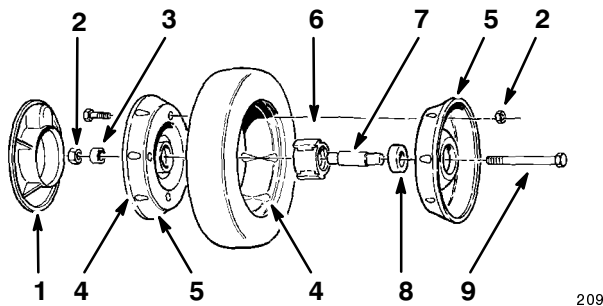

Figure 33
3. Remove the cap screw, the wheel spacer, and the locknut mounting the wheel to the pivot arm (Fig. 33).
4. Separate the wheel halves from the tire by removing four cap screws and four locknuts (Fig. 33).
Note: If you remove the bearings from the bearing/hub assembly, remove them by pressing on the bearing spacer (Fig. 33).
1. Position the tire onto one wheel half, aligning the lugs on each (Fig. 33).
2. Place the bearing/hub assembly into the center hole of the wheel half. Ensure that the legs of the hub are positioned over the flange of the hole (Fig. 33).
3. Place the other wheel half onto the bearing/hub assembly, aligning the wheel and the tire lugs and the mounting holes (Fig. 33).
4. Using two 1/4–20 x 1.5 in. (6 x 38 mm) fully threaded screws or bolts and non-locking nuts, loosely secure the wheel halves together. Mount the screws or bolts in the opposing holes (Fig. 33).
5. Check the alignment of all parts and tighten the screws, alternating from side to side for a uniform fit, until the wheel halves are drawn together (Fig. 33).
6. Install the two cap screws and two locknuts previously removed in the remaining holes in the wheel halves and tighten. Remove the two long screws or bolts and replace them with two cap screws and two locknuts (Fig. 33).
7. Install the wheel to the pivot arm with the cap screws, a spacer, and a locknut. Ensure that the spacer is positioned between the wheel hub and the pivot arm (Fig. 33).